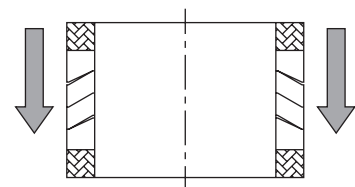

Figure 9 Packing set
- 2 Remove the gland bridge, nut & bolt and spring washer ②③.
- 3 Remove the gland bridge, gland bushing ②⑤ and packing set ②②.
- 4 Carefully clean packing cavity and stem ⑦ in bonnet.
- 5 Open the new packing set ②②, insert the packing in the same sequence as removed. When assembling the packing, the assembly sequence should not change. (see Figure 9)